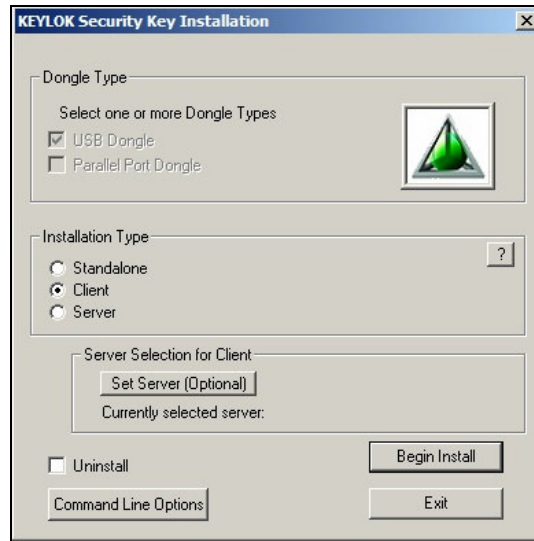

Figure C.11
- b) Select the 'Client' radio button. Click 'Begin Install' (see figure C.11)